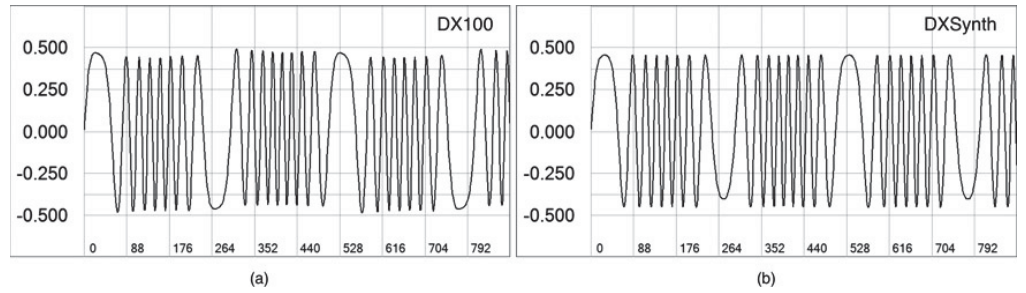

Figure 12.24: (a) Actual DX100 and (b) DXSynth spectra for a basic two-operator patch:
12.24–12.25 show the spectra of the DX100 versus the DXSynth for a few patches. The analog noise floor is evident in both sets of plots. We also noticed that tiny changes in the DX output amplitude created vast changes in the spectral components. For example, in Figure 12.24, changing the DXSynth Op3 Output from 75.0 to 75.2 resulted in very different spectra. This results in the differences you see in the spectra.